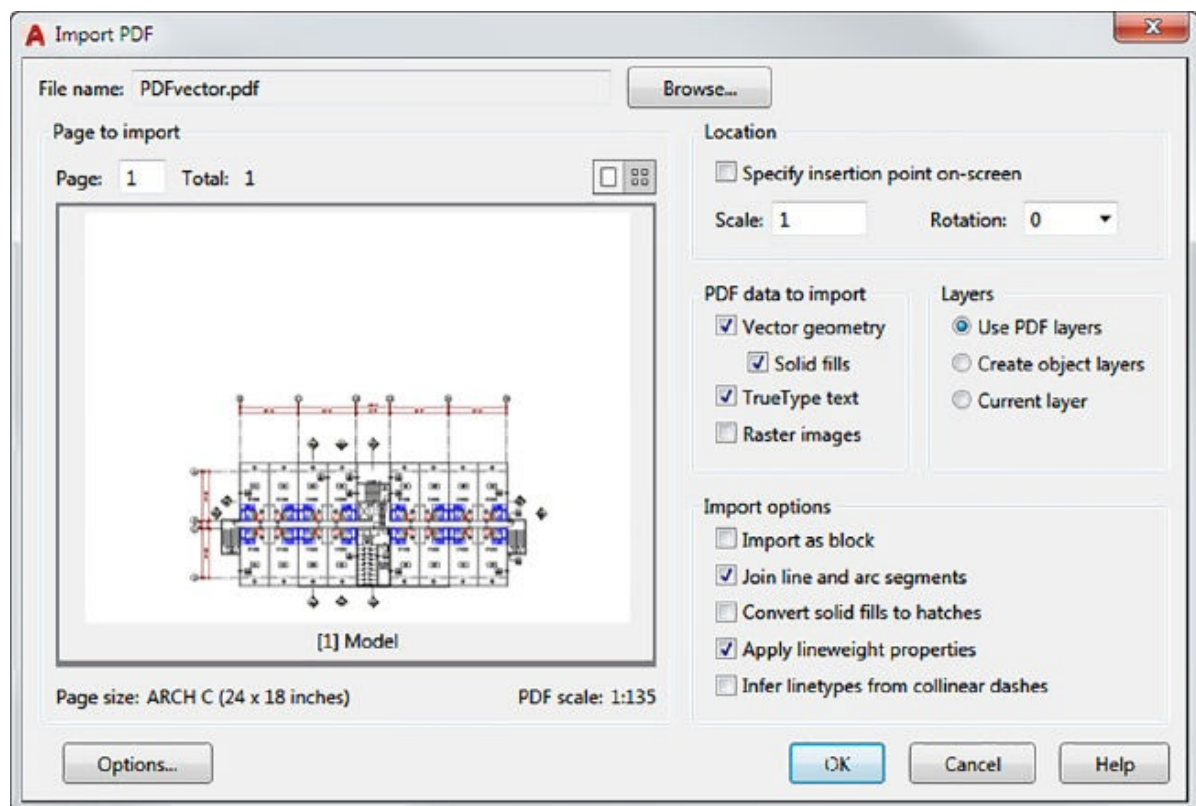

FIGURE 13.16 The Import PDF dialog box
3. In the Import file dialog box, browse to the Chapter 13 sample files and open the PDFvector.pdf file. The Import PDF dialog box appears (see Figure 13.16). Here you have a number of options that give you control over how the file is imported. For this exercise, you'll use the default settings.
Let's take a look at the options in the Import PDF dialog box shown in Figure 13.16. These options enable you to control how the PDF is imported. You can set whether raster data is imported into the drawing or, if the PDF contains layers, how the layers are translated. You can also control how types of geometry are converted. For example, in the Import Options section, you can set the PDF to be imported as a block or convert solid fills in the PDF to hatches. The options are fairly self-explanatory, but a few may need a bit more explanation.